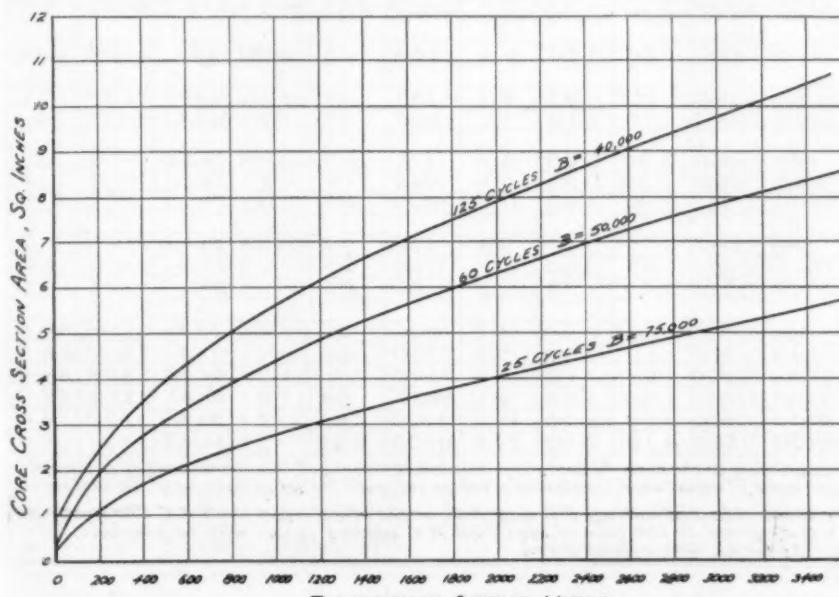

Fig. 1. Core Area Required for Given Output From Transformers.
each. The cross-sectional area necessary depends upon the power in watts to be handled. This area can be determined from the curves in Fig. 1 which give the cross-sectional area in square inches required for a given output in watts at 25, 60 or 125 cycles.
Inspection of the 60 cycle curve of Fig. 1 shows that for 600 watts output a core section of 3.5 sq. in. is necessary. Substituting the given values in equation (1) the required primary turns